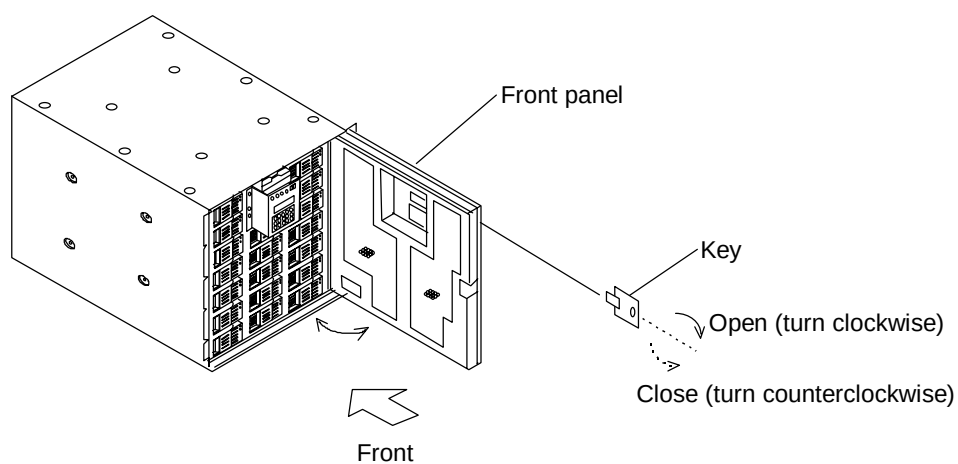

Figure 3.3.1 Opening/Closing the Front Panel
(1) Opening the front panel. (See Figure 3.3.1.)
- ① Remove the front bezel.
- ② Insert the key, turn it to the arrow direction (→) and hold the left of the front panel to open to the right.
(2) Closing the front panel. (See Figure 3.3.1.)
- ① Close the front panel.
- ② Turn the key to the arrow direction (←) and secure the front panel.
- ③ Attach the front bezel.